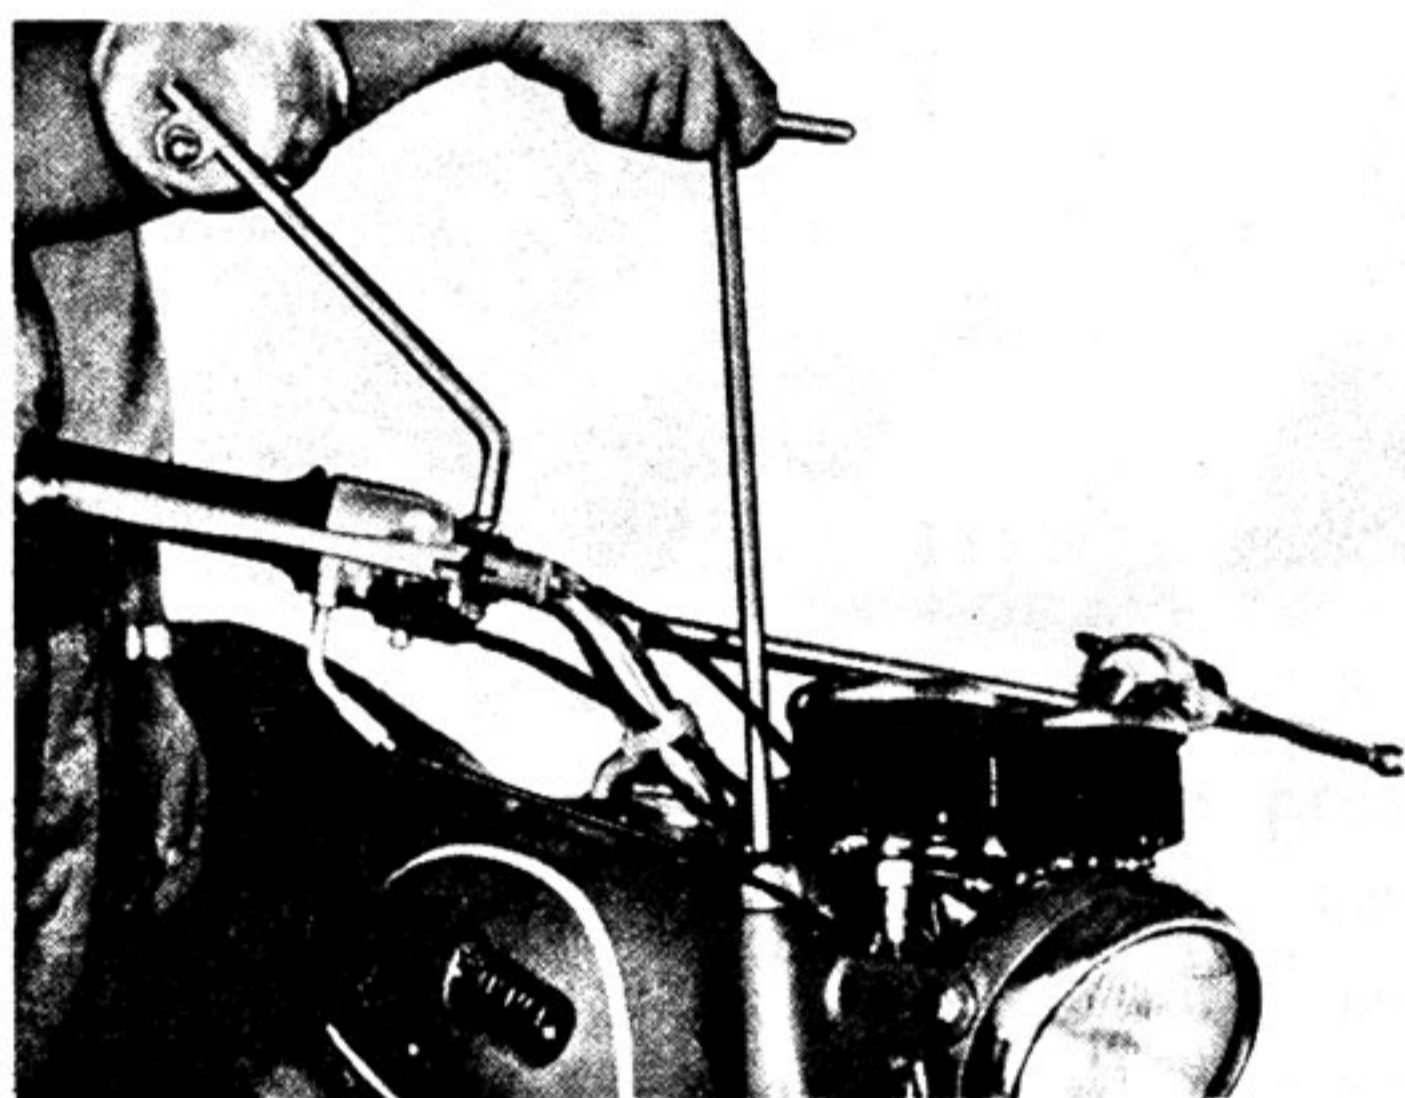

Fig. 5-7-7
(2) Mounting the Front Fork on the Chassis
- a. Pull the front fork upward by using the front fork puller, and tighten the under-bracket clamping bolt. (Fig. 5-7-7)